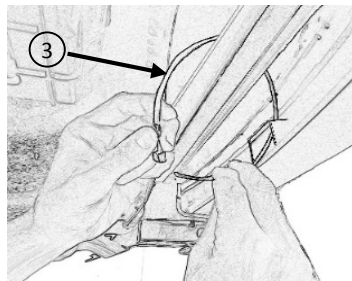

Figure-3
- Reinstall the lower fascia -** Aligning tabs in lower fascia with upper fascia. Reinstall the (2) Philips screws at outer ends of fascia, (1) per side and (5) plastic rivets.
- Install cable ties -** Using (2) cable ties provided, secure lower fascia to hitch cross tube by inserting cable tie through the three outer fascia push-pin rivet attachment points and around hitch cross tube (see figure-3).
- Reinstall underbody panels-** Using (3) push pin rivets and (3) hex nuts removed in step 1, both sides.